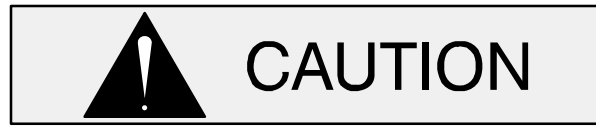

**Figure 3. Lubricating Bearing Cavity**
**The bearing housing was not lubricated when shipped from the factory.** To lubricate the bearing cavity, fill the constant level oiler as shown in Figure 3 with SAE No. 30 non-detergent oil, then close the oiler and allow the oil to drain into the bearing cavity. Repeat this procedure until oil no longer drains from the constant level oiler.